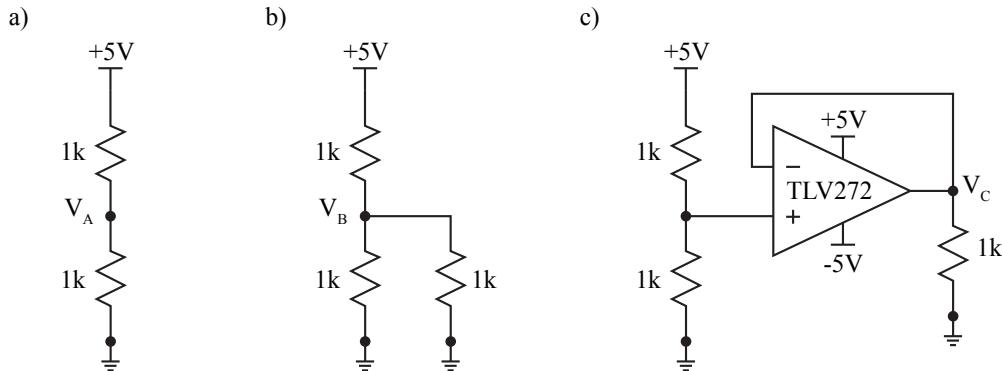

Figure 6.3: A simple voltage divider (a), voltage divider with a load (b), and a voltage divider with a voltage follower between the output and the load (c).
1. Simulate all three circuits in Figure 6.3 using a DC operating point (.op). Keep all the circuits on the same schematic and table the voltages V_A , V_B , and V_C .